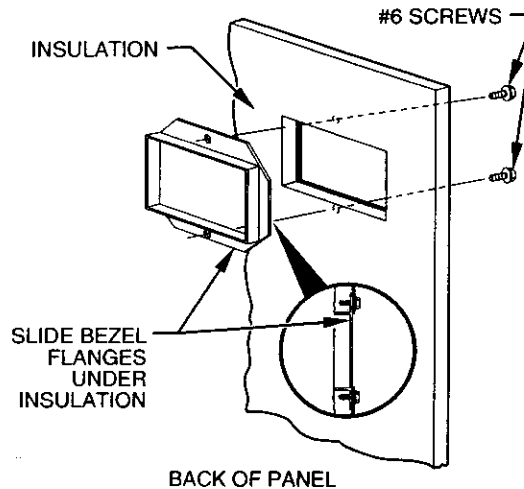

Fig. 4—Installation of Bezel for Circuit Breaker Model Heater
4. Circuit breaker models require installing a bezel in unit door to provide safe access to circuit breakers. Bezel mounts on inside of blower door. (See Fig. 4.)